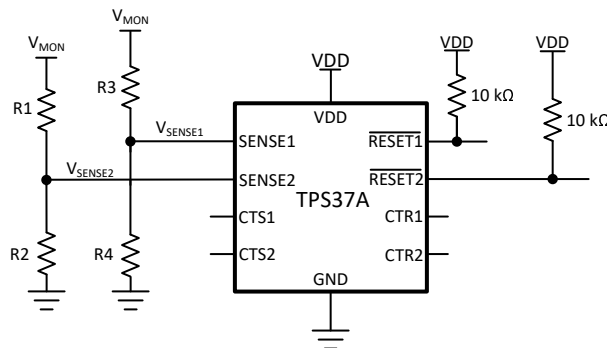

图 10-1. Adjustable Voltage Threshold with External Resistor Dividers
For example, consider a 12 V rail being monitored V_{MON} for undervoltage (UV) using channel 2 of the TPS37A010122DSKR variant. Using 方程式 7 and shown in 图 10-1, R_1 is the top resistor of the resistor divider that is between V_{MON} and V_{SENSE2} , R_2 is the bottom resistor that is between V_{SENSE2} and GND, V_{MON} is the voltage rail that is being monitored and V_{SENSE2} is the input threshold voltage. The monitored UV threshold, denoted as V_{MON-} , where the device will assert a reset signal occurs when $V_{SENSE2} = V_{IT-(UV)}$ or, for this example, $V_{MON-} = 10.8V$ which is 90% from 12 V. Using 方程式 7 and assuming $R_2 = 10k\Omega$, R_1 can be calculated shown in 方程式 8 where I_{R1} is represented in 方程式 9: